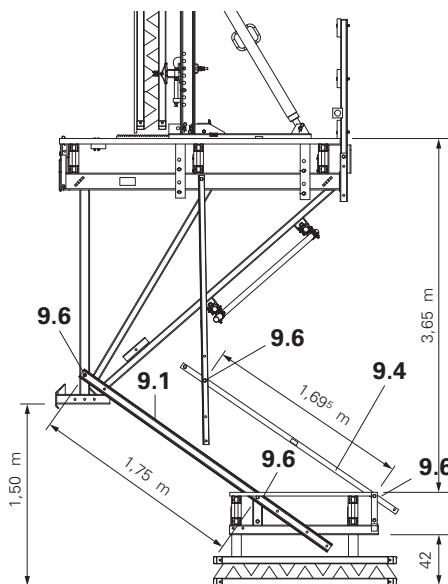

Fig. B1.28.1
Depending on the concreting height, use top or bottom hole, see Fig B1.28.1 – B1.28.4. Mount wind bracing (6.3/7.3).
5. Fix the Guardrail Post 190 (9.4) or Guardrail Post 370 (9.5) to Guardrail Post 200 (9.3) at an angle using bolt (9.6). Depending on the concreting height, use top or bottom hole, see Fig. B1.28.1 – B1.28.4. Mount wind bracing (6.3/7.3).
Working platform – finishing platform spacing: 3.65 m. Required free space:  $\geq 42$  cm. Mark out Platform Post CB 225 (9.1) and Guardrail Post CB 190 (9.4). (Fig. B1.28.1)